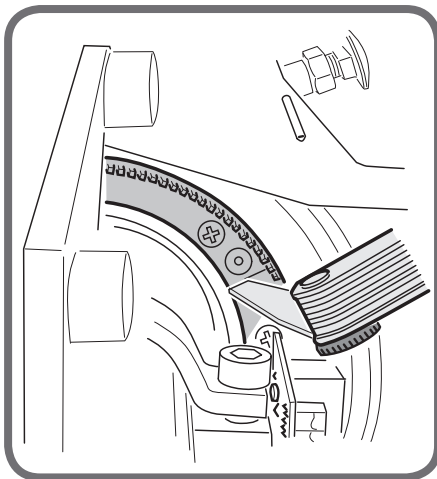

Fig.4
- on the new disk, use nippers to cut the two junction teeth in line with the "0" notch. Insert the disk in the appropriate seat and tighten the 4 screws (previously loosened) but without blocking them. Adjust the disk so that the gap on the "0" notch is 0.9mm/1mm, as shown in figure 4. To check the width of the gap on the "0" notch you can use a normal feeler gauge;